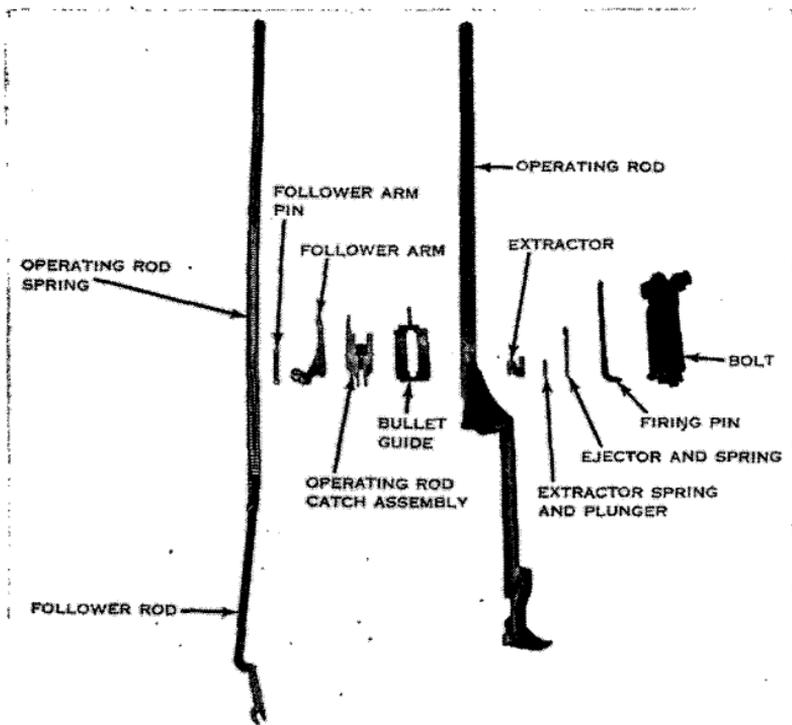

Figure 17. Parts of the barrel and receiver group in their order of disassembly.
i. In figure 17, you see the parts of the barrel and receiver group that you have disassembled in the order in which they should be laid out.